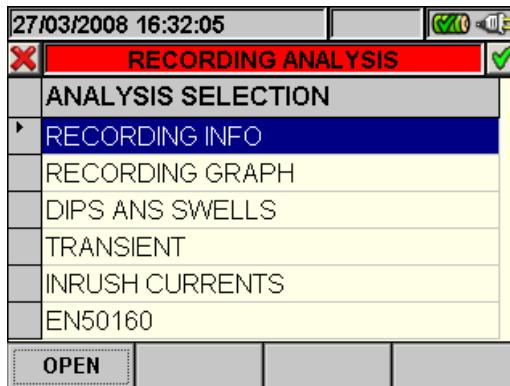

Fig. 96: Recording analysis (Reg-type data)
2. Press the **ESC** key (or the smart icon  ) to exit the function and go back to the “Recording analysis” page (Fig. 96).
- The **ESC** key (or smart icon to exit the function and go back to the “Recording analysis” page (Fig. 96).
- The **ESC** key (or smart icon  ) to exit the function and go back to the "Recording analysis" page (Fig. 96).